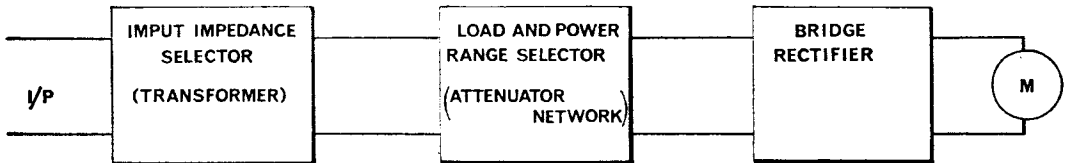

Fig. 5. Absorption wattmeter
11. A simplified block diagram for an audio frequency absorption wattmeter is shown in figure 5. Similar instruments designed for radio frequency measurements are also available and will operate from d.c. to about 500MHz.